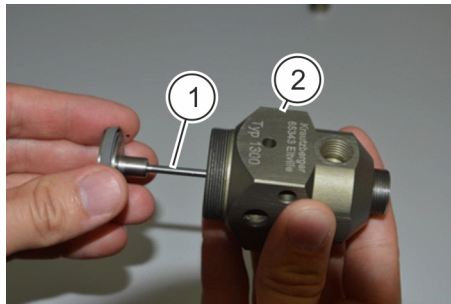

Fig. 16: Assembling the needle piston unit
8. Insert the needle piston unit ( Fig. 16/1) into the main element ( Fig. 16/2) from the piston side and carefully slide it through the seal pack.